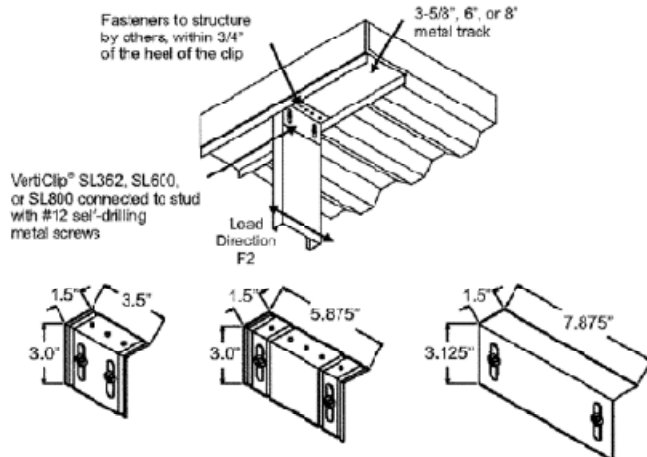

FIGURE 1 - VERTICLIP SL362, SL600, and SL800
3.1.2 VertiClip® SL: VertiClip SL362, 600 and 800 are L-shaped angles that connect 3⁵/₈-, 6- and 8-inch-deep (92, 152, and 203 mm) exterior curtain wall steel studs, respectively, at head of wall to the building's structural frame while allowing for a maximum of 1¹/₂ inches (38.1 mm) of vertical movement between exterior wall elements and the primary structure. The minimum base-metal thickness of the clips is 0.0677 inch (1.7 mm). The long leg of the VertiClip SL362 connector, which is fastened to the curtain wall stud, has two vertical slots, each ³/₈ inch (9.5 mm) wide by 1³/₄ inches (44.5 mm) long. The long leg of the VertiClip SL600 and SL800 connectors has two or three vertical slots, each ³/₈ inch (9.5 mm) wide by 1⁷/₈ inches (47.6 mm) long. Refer to Figure 1 for overall dimensions of each VertiClip SL connector and a typical installation detail.
Table 1 of this report presents the following design information: (1) The calculated safety factor, Ω , and resistance factor, ϕ , as derived in accordance with the AISI S100-07 under the 2009 IBC or NAS-01, including the 2004 Supplement under the 2006 IBC, (2) the average test load at 1/8-inch (3.2 mm) deflection service limit; (3) the Allowable Strength Design (ASD) loads for the VertiClip products described in this report; and (4) the Load and Resistance Factor Design (LRFD) design strength for the VertiClip products described in this report. Refer to Figures 1 through 5 for the direction of load listed in Table 1.
¹Refer to Figures 1 through 5 for direction of load.